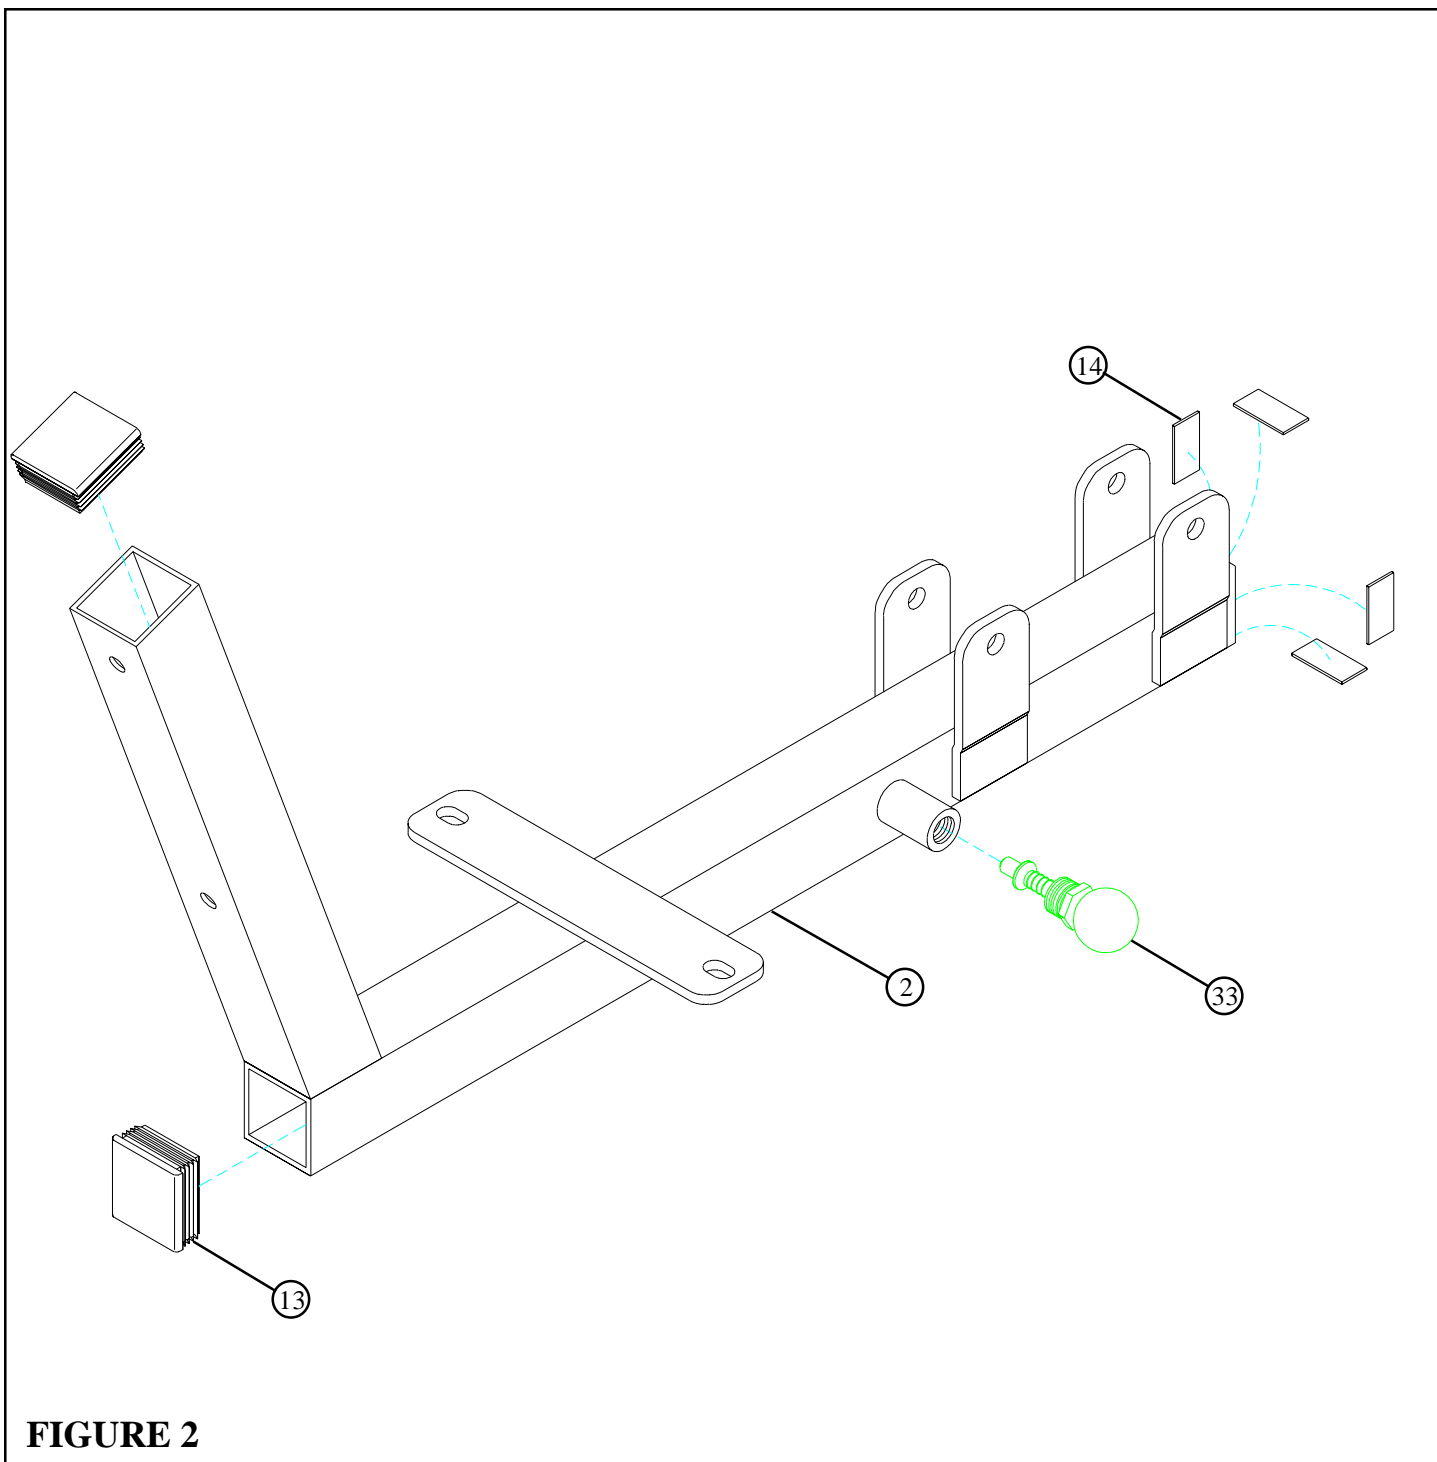

**FIGURE 1**
- Attach two 2" SQ. COVER CAPS (15) onto the ends of the REAR TUBE (3) as shown in FIGURE 1.
- Insert four 2" SQ. ENDCAPS (13) into the ends of the BASE FRAME (1) as shown in FIGURE 1.
- **SECURELY** assemble the REAR TUBE (3) to the BASE FRAME (1) using two 3/8 X 3" BOLTS (25), four 3/8" FLAT WASHERS (17), and two 3/8" LOCK NUTS (19). See FIGURE 1.